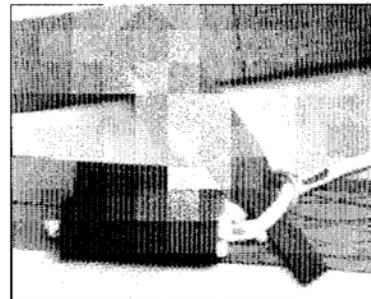

Figure 2
- c) Stow the excess steering line vertically in the velcro keeper, wrapping the loop velcro around the line and locking it over approximately one-third of the hook velcro. *Figure 2*